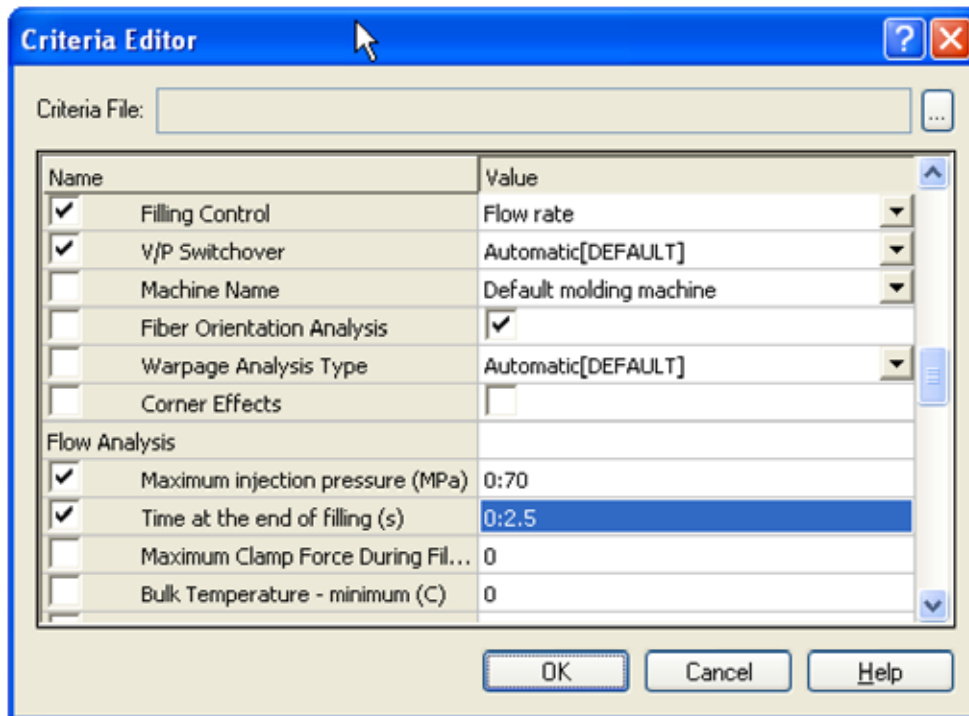

Figure 138: Criteria editor dialog
- The criteria editor dialog opens (see Figure 138).